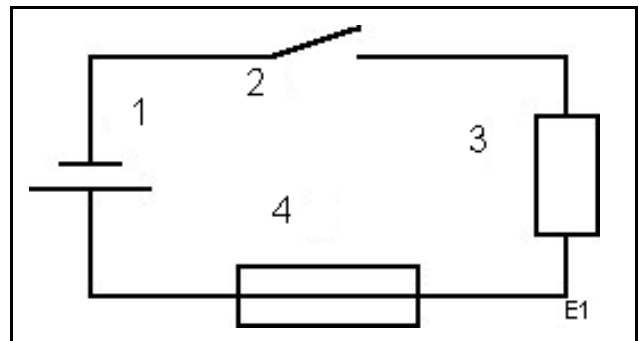

Fig. 3 Circuit
A simple circuit consists of a current source 1 (Fig. 3), a consumer (3) and the connecting wiring.